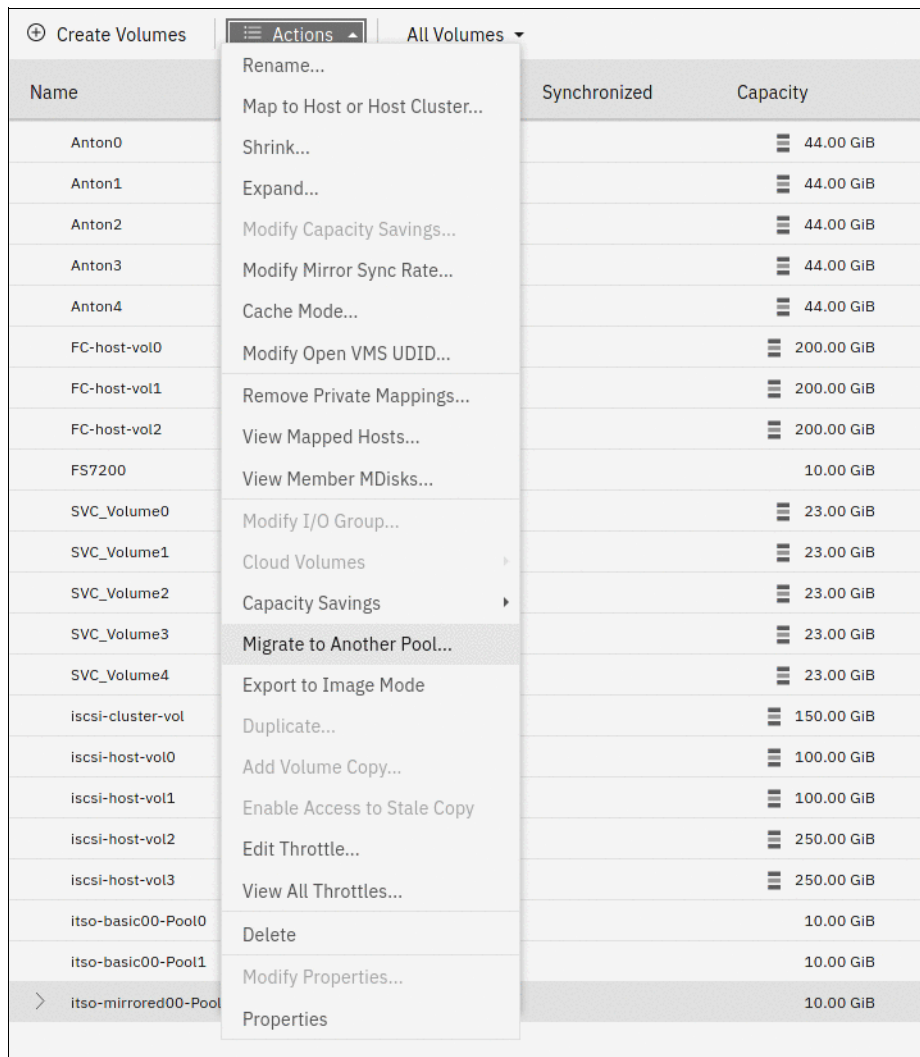

Figure 6-74 Migrate Volume Copy: Selecting a menu item
1. In the **Volumes** menu, highlight the volume that you want to migrate. Select **Actions** → **Migrate to Another Pool...**, as shown in Figure 6-74.